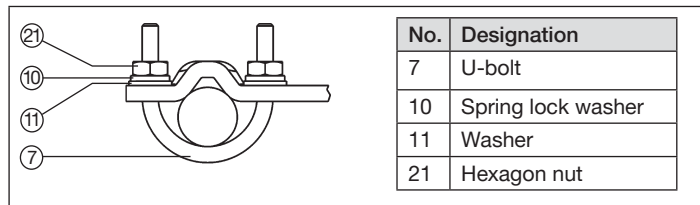

Fig. 15: Attaching the mounting bracket to the columnar yoke
- Attach the mounting bracket to the columnar yoke using the U-bolt (7), the washers (11), the spring lock washers (10) and the hexagon nuts (21) (see “Fig. 15”).